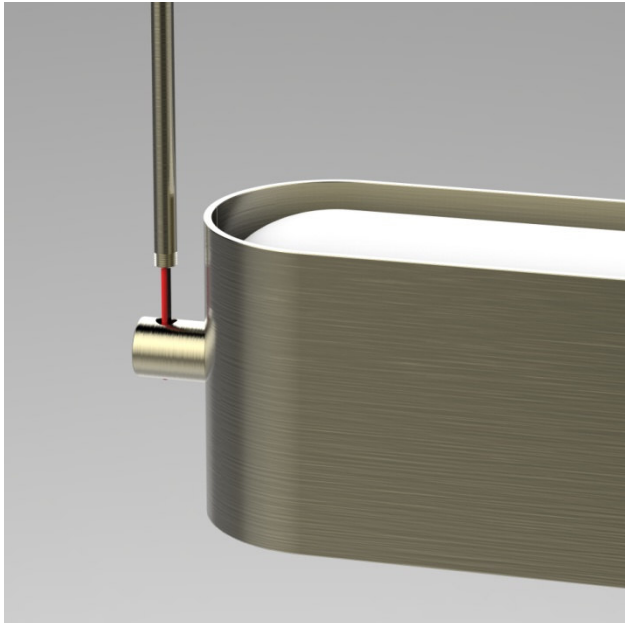

Figure 2
- With fixture assembly resting on a padded surface, thread stem to end coupling. (Figure 2)